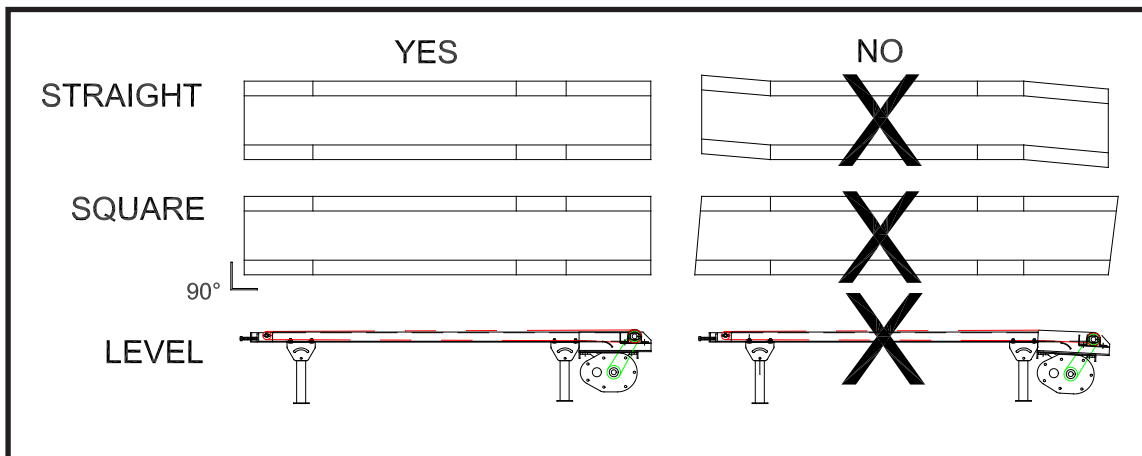

FIGURE 3
5. Bolt together conveyor frames finger tight. Square frames and make sure all frames line up with adjacent section before securing all bolts. See FIGURE 3.